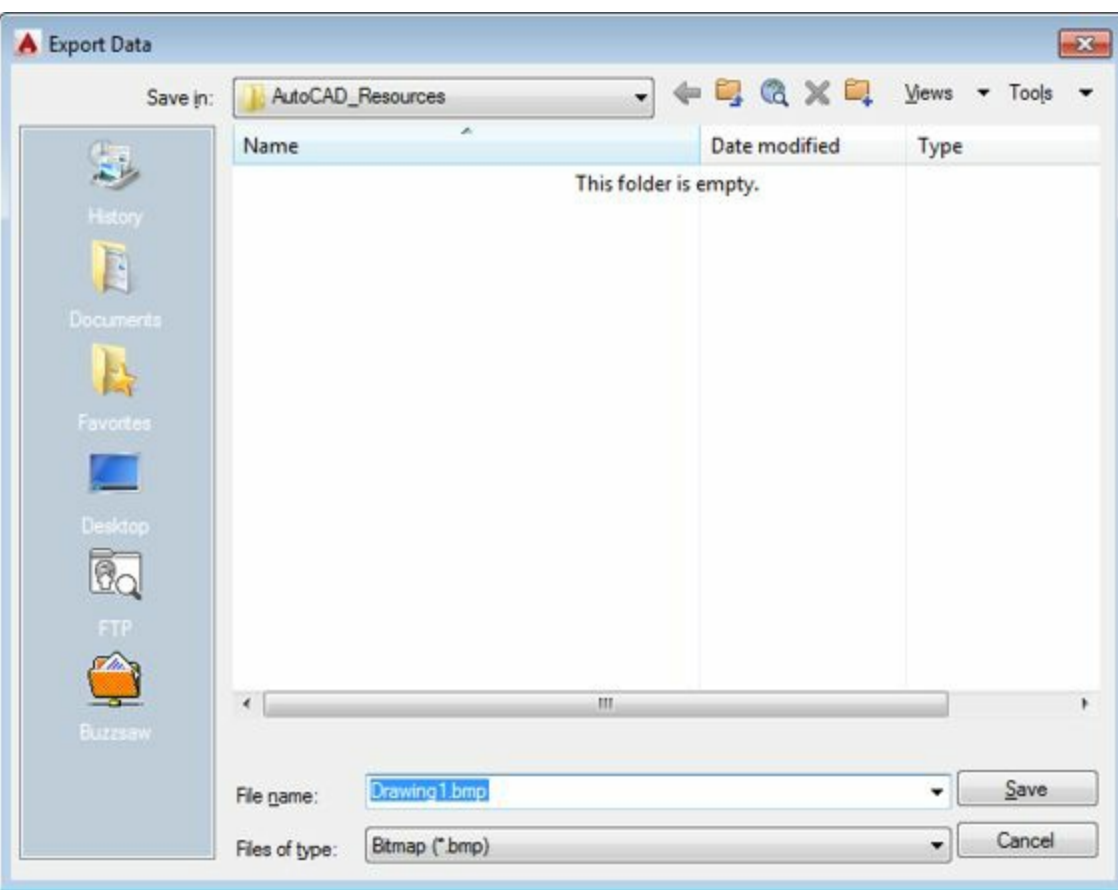

Figure-36. Export Data dialog box
- Click on the **Other Formats** button from the list. The **Export Data** dialog box will be displayed as shown in Figure-36.